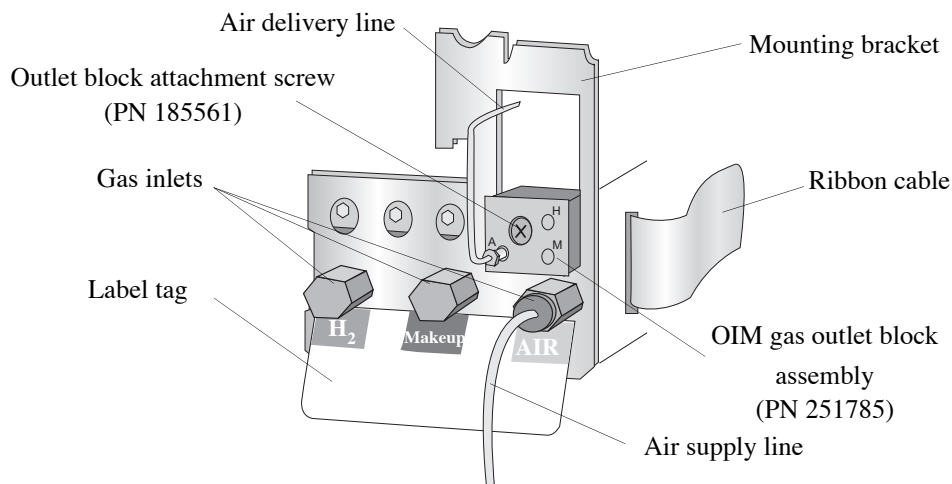

Figure 3.17. OIM gas flow module (venting option configuration)
12. If using a venting option, remove the protective cap from the gas inlet marked “Air” on the gas flow module front. Attach the air supply line to this inlet using a $\frac{1}{8}$ " brass Swagelok nut and brass ferrule (refer to Figure 3.17).
15. If using the venting option, attach the supplied $\frac{1}{16}$ " stainless steel air delivery line (PN 193409) to the gas outlet marked as “A” on the OIM outlet block using a $\frac{1}{16}$ " nut (PN 223057) and ferrule (PN 216366) (refer to Figure 3.17). This line provides oxidant gas flow in the 20–40 mL/minute flow range to the XSD.